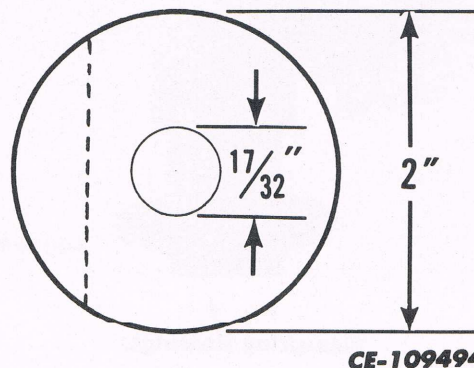

Fig. 5
- a. Obtain one, 1/2 NF x 3 inches long cap screw with nut. Cut two flat washers, 2 inch O.D. x 17/32 I.D. x 1/8 inch thick as shown in Fig. 5.